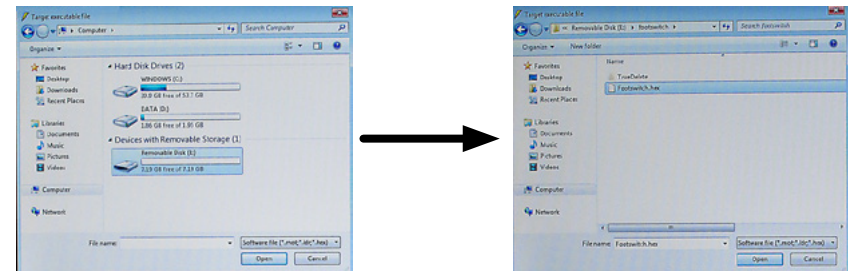

Figure 4-8 Selecting the Footswitch Software from the Service Media
- 2.2.19 Select Computer from Windows and navigate to the Devices with Removable Storage (Service Media USB) that contains the Footswitch software and select Open (see Figure 4-8).
- 2.2.20 Select Footswitch.hex and ensure it is highlighted. Select Open (see Figure 4-8).